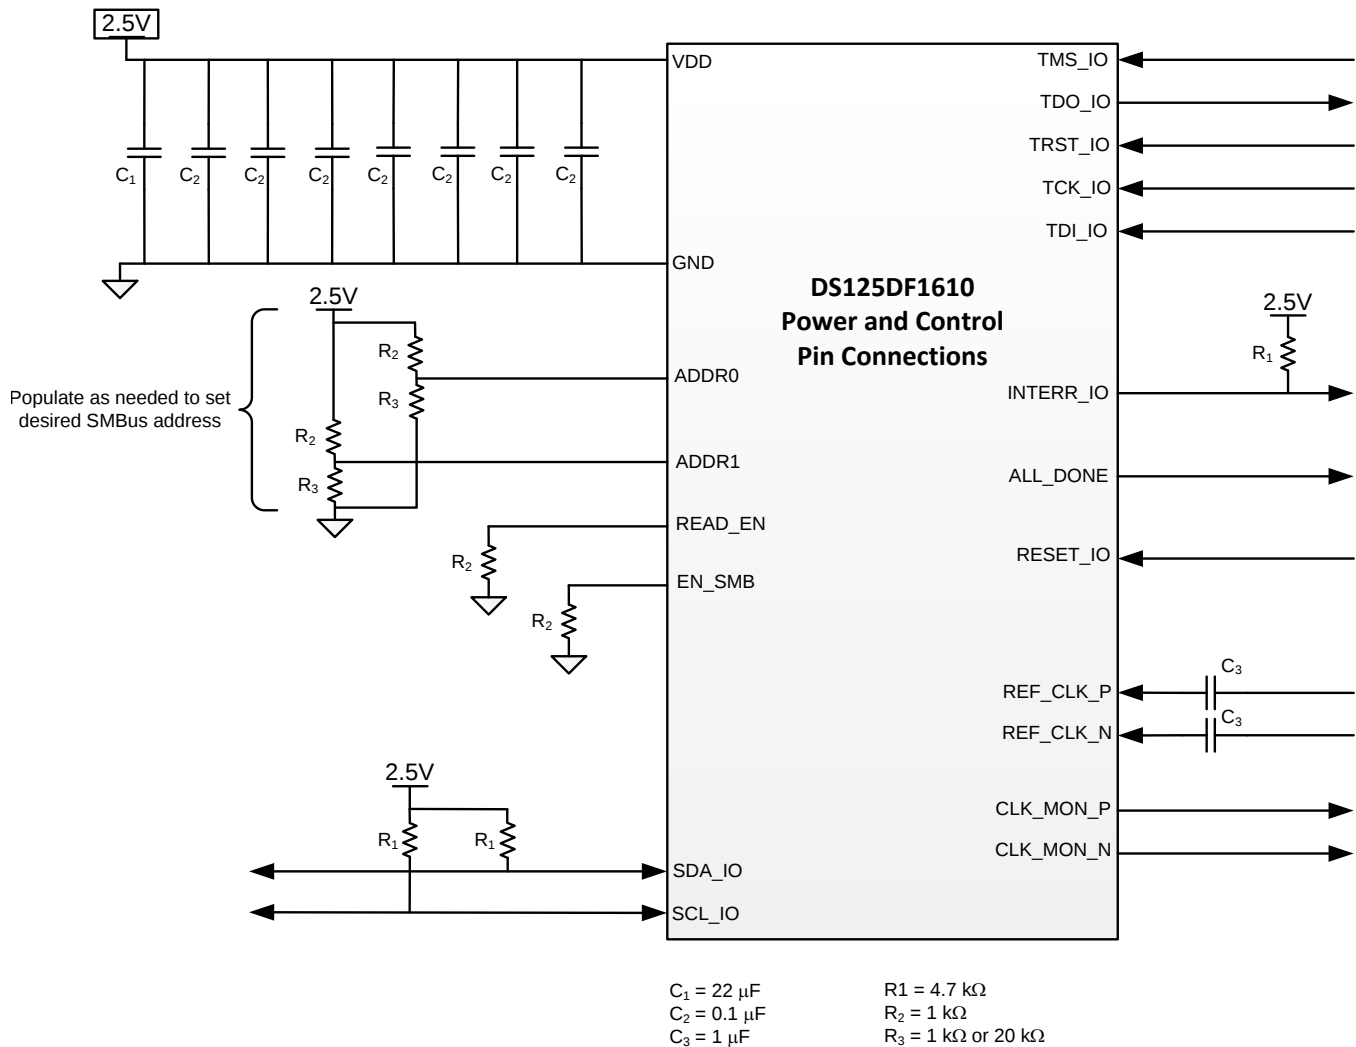
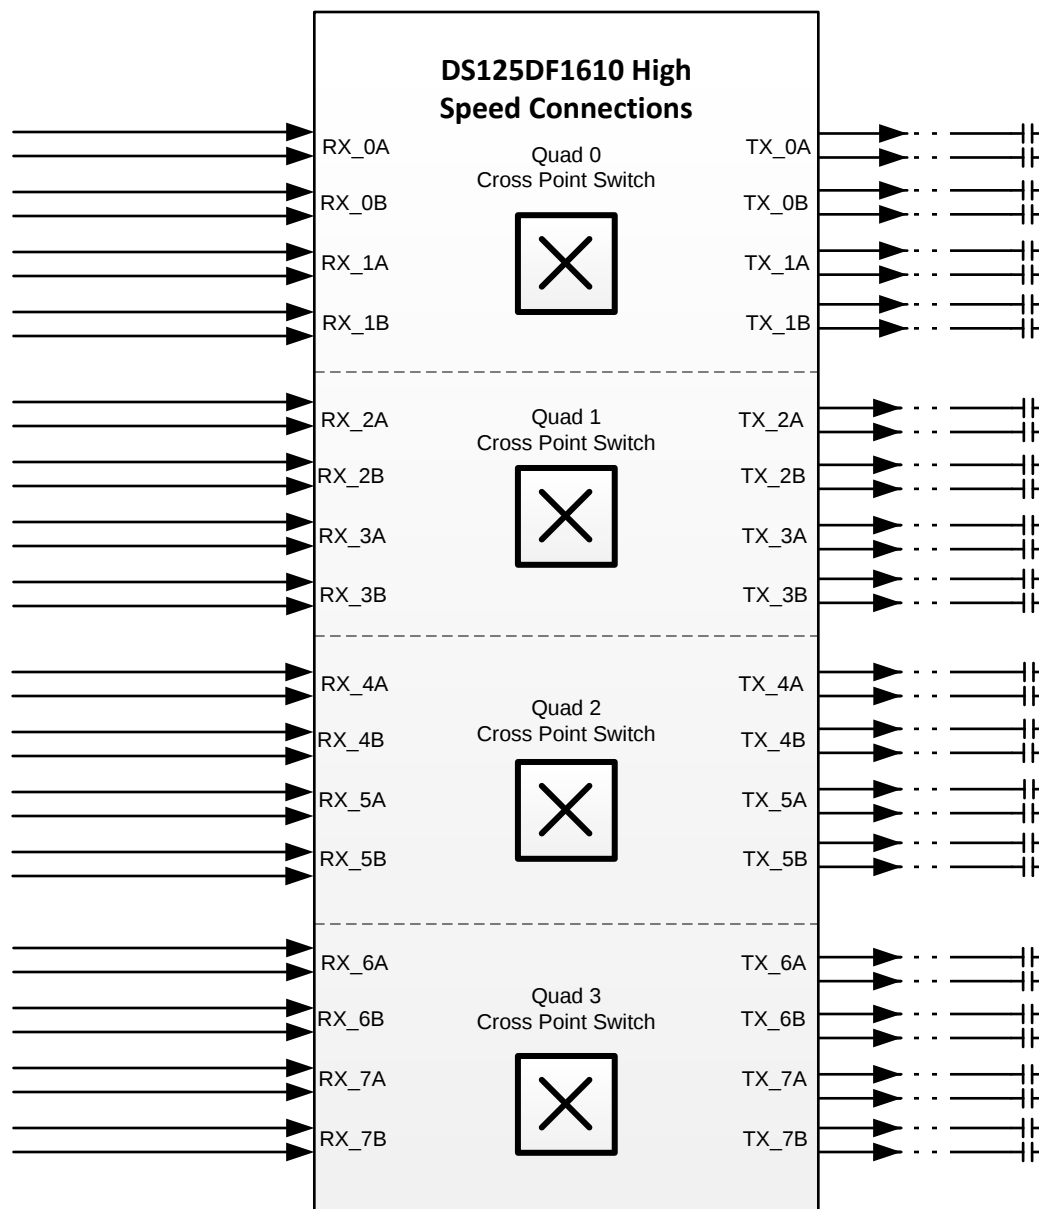

图 6. Typical Connection Diagram: Power and Control Pins
图 7. Typical Connection Diagram: High Speed Signals
图 6 和 图 7 show a typical application of the DS125DF1610. In these diagrams, the DS125DF1610 is configured for SMBus slave mode programming. Power is supplied to the device through a single 2.5 V plane. The power supply filtering shown in these diagrams may need to be adjusted to accommodate additional system power noise. The SMBus and LVCMOS signals in this example use 2.5 V logic. A differential reference clock for the digital block is applied to the device through 1 μF AC-coupling capacitors. In this example, the high speed signals are connected to the device in groups of four to allow for the system designer to make use of the 4x4 cross point switches. Note that since the device contains AC-coupling capacitors on the high speed receiver inputs, the signals can be directly connected to the device. The transmitter outputs of this device should connect to AC-coupling capacitors placed near the receive inputs of the receiving ASIC.
- Compare schematic against the typical connection diagrams in the datasheet, 图 6 和 图 7